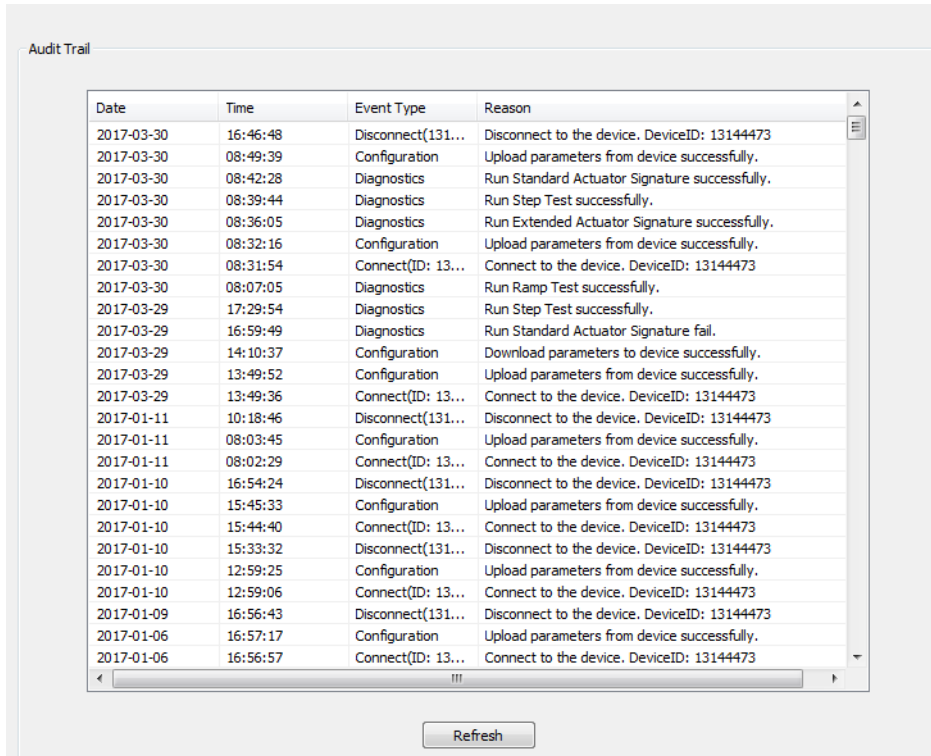

Figure 115 Audit Trail
- Right-click the SVI3 device in the *Project* pane and select **Additional Functions > Audit Trail** and Figure 115 appears.